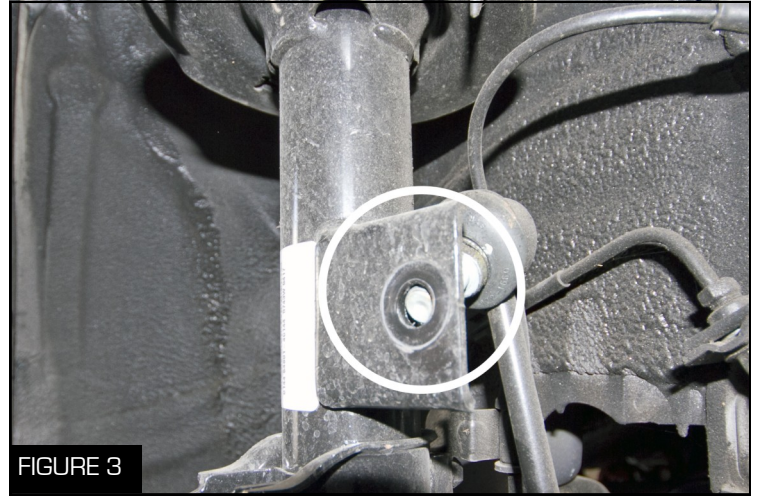

FIGURE 3
3. Unbolt the sway bar end link from the strut using the 19 mm socket wrench (Figure 3)